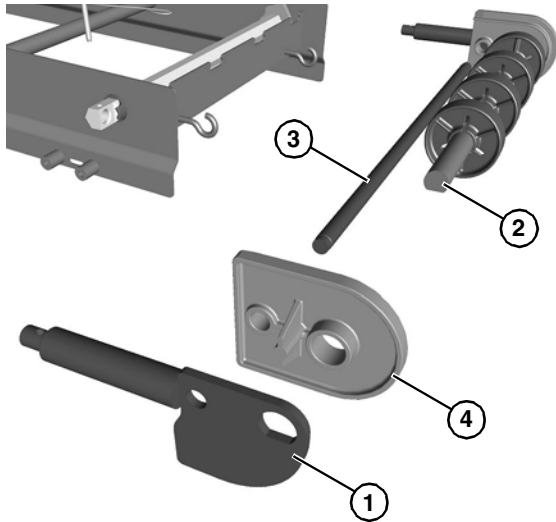

**Figure 63**
1. Remove the pull pins (**Figure 63, item 1**) from tip up hex shaft assembly (**Figure 63, item 2**).
2. Slide the idler tail assembly (**Figure 63, item 3**) out of the tip up hex shaft assembly.